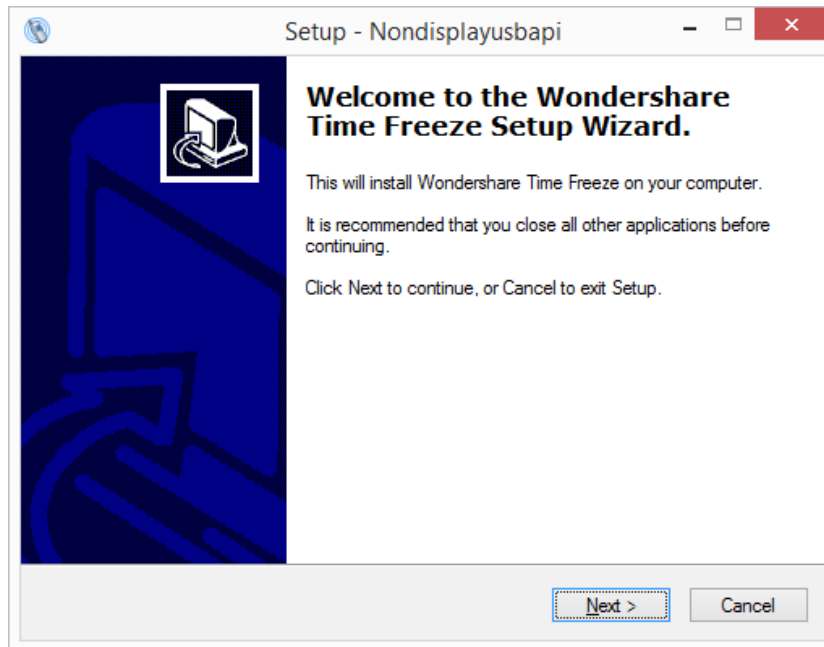

Figure 3-7: Handset Driver Installation
Step 3: Follow the step-by-step instruction of the installation wizard (**Figure 3-7**) to install the handset driver.